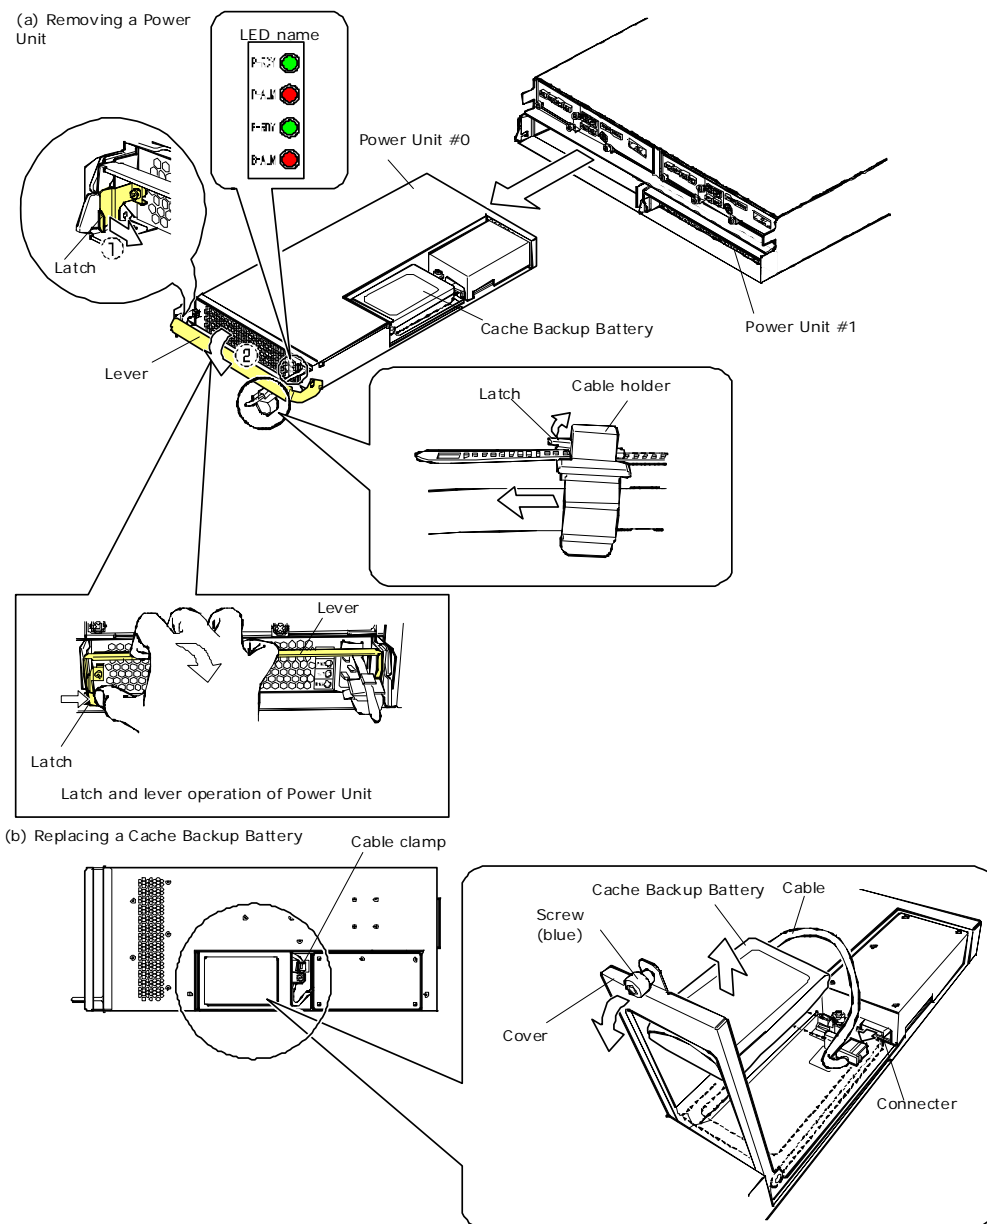

Figure 5-1: Replacing a cache backup battery on a CBXSS/CBXSL/CBSS/CBSL
Use the following procedure to remove the Power Unit on which the red **B-ALM** LED for the cache backup battery is ON (and see Figure 5-1 on page 5-5).
Use the following procedure to remove the cache backup battery (and see Figure 5-1 on page 5-5):
Use the following procedure to install a new cache backup battery (and see Figure 5-1 on page 5-5):
- Red **ALARM** LED and orange **WARNING** LED (orange) are OFF. If the LED in Figure 5-1 on page 5-5 is blinking slowly, visit the HDS Support Portal at portal.hds.com. The green **READY** LED on the front of the Controller Box might blink quickly for 30-to-50 minutes.